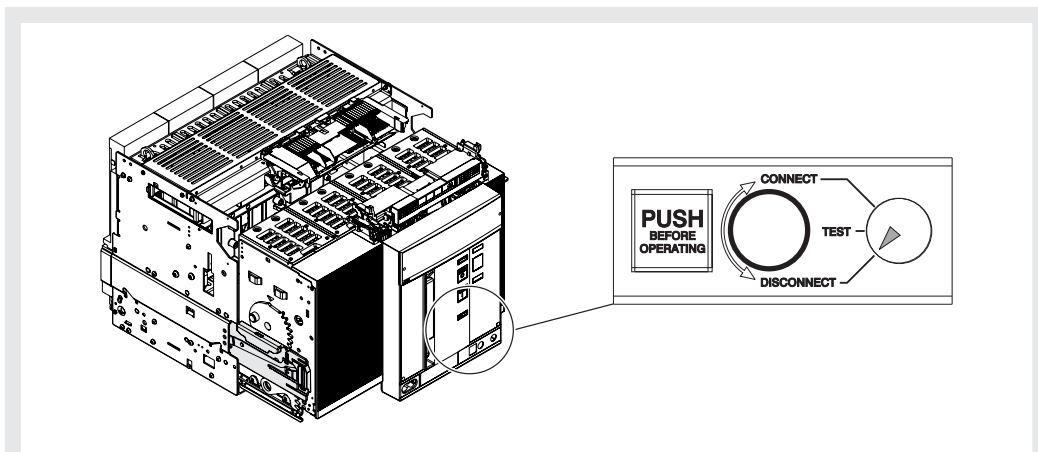

Figure 40
- 6. Make sure that the signalling device indicates the **DISCONNECT** position. See Figure 40.